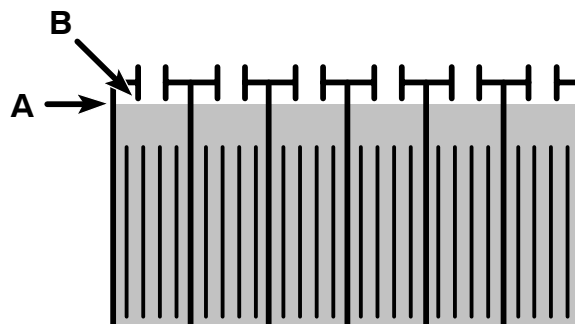

FIG. 25
3. Check the electrolyte level (A) in each battery cell **after charging batteries**. The level should be approximately 1 cm from the bottom of the fill-port (B). Add distilled water if needed (Figure 25). **DO NOT OVERFILL.**